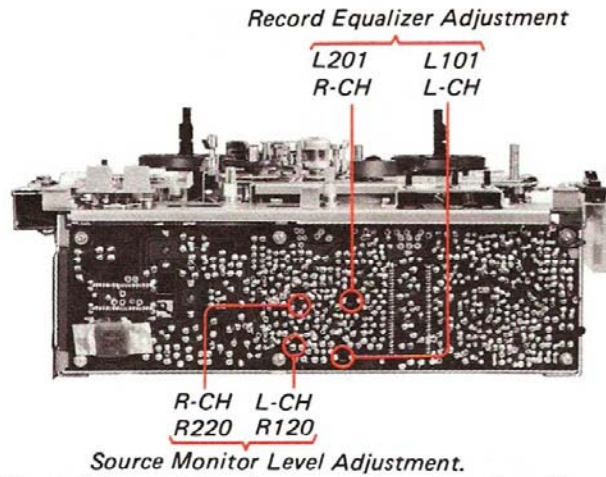

Fig. 3-2-14. Adjusting parts location for the items 11 and 12
- Step 3. Record a 18 kHz signal of -90 dB (0.0245 mV) continuously and playing it back, adjust L101 (L201) so that the same VTVM reading as the step 2 is obtained (See Fig. 3-2-14.)